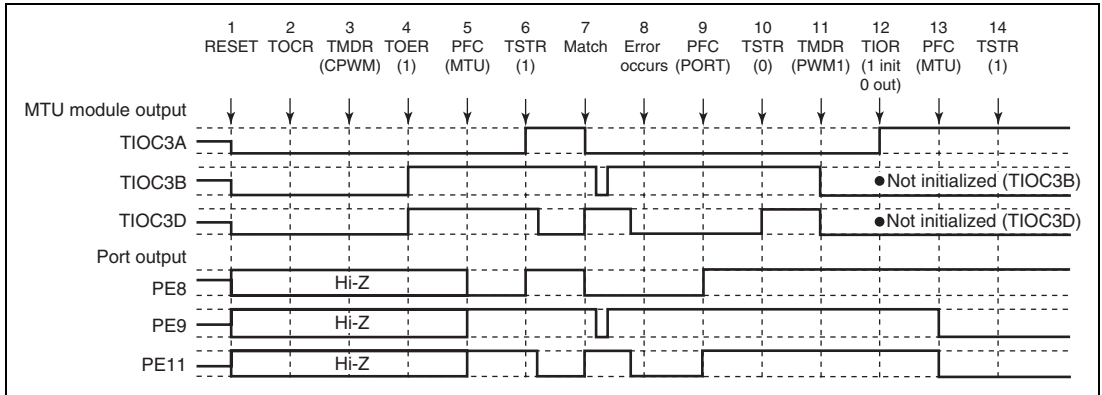

**Figure 11.106 Error Occurrence in Complementary PWM Mode, Recovery in PWM Mode 1**
**Operation is Restarted in PWM Mode 1:** Figure 11.106 shows an explanatory diagram of the case where an error occurs in complementary PWM mode and operation is restarted in PWM mode 1 after re-setting.